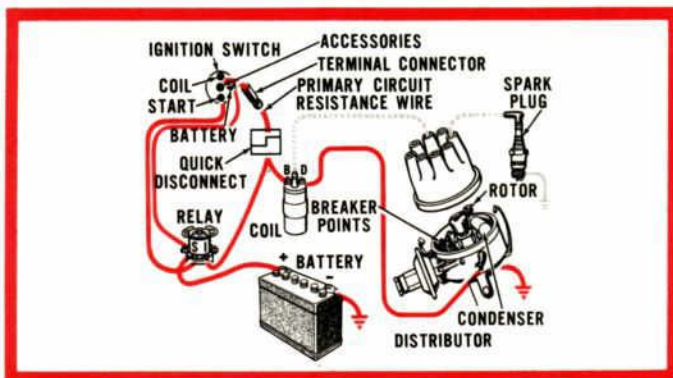

Figure 1—Primary Circuit
**Primary Circuit**—The primary circuit is “hot” or in operation only when the breaker points are closed. Low (12) volt current is supplied by the battery and/or generator-alternator, and flows through the ignition switch to the primary windings of the coil; then, to ground through the closed breaker points. Figure 1. As long as current is flowing steadily in the primary circuit, the secondary circuit is inactive. However, since the current must ultimately jump an air gap at the spark plug, which works like putting a gigantic resistance in the circuit, (especially with high compression engines), the low 12 volt input voltage must be stepped up a thousand or more times. This is done with a coil.